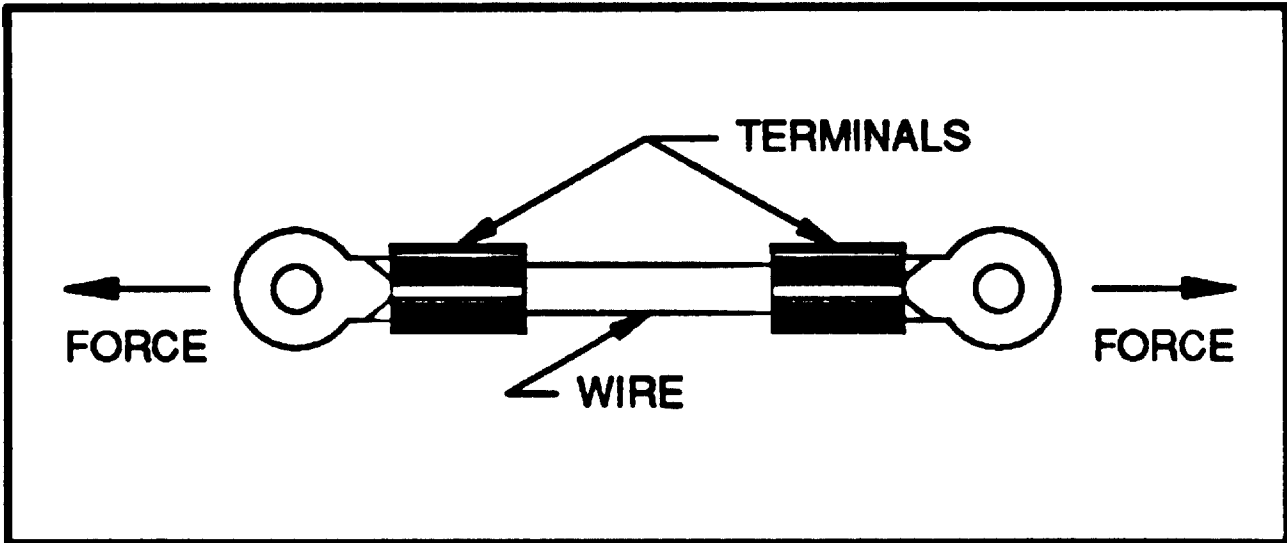

FIGURE 4
2. Subject each sample to an axial pull which is to be increased until failure of the connection occurs, see Figure 4.